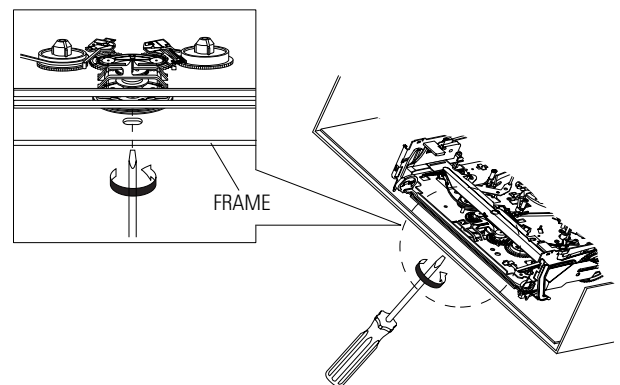

Fig. 3-34
- 2) When Slider S,T are approached in the position of unloading, rotate holder Clutch counterclockwise after inserting screw driver in the hole of frame's bottom in order to wind the unwinded tape. (Refer to Fig.3-34)